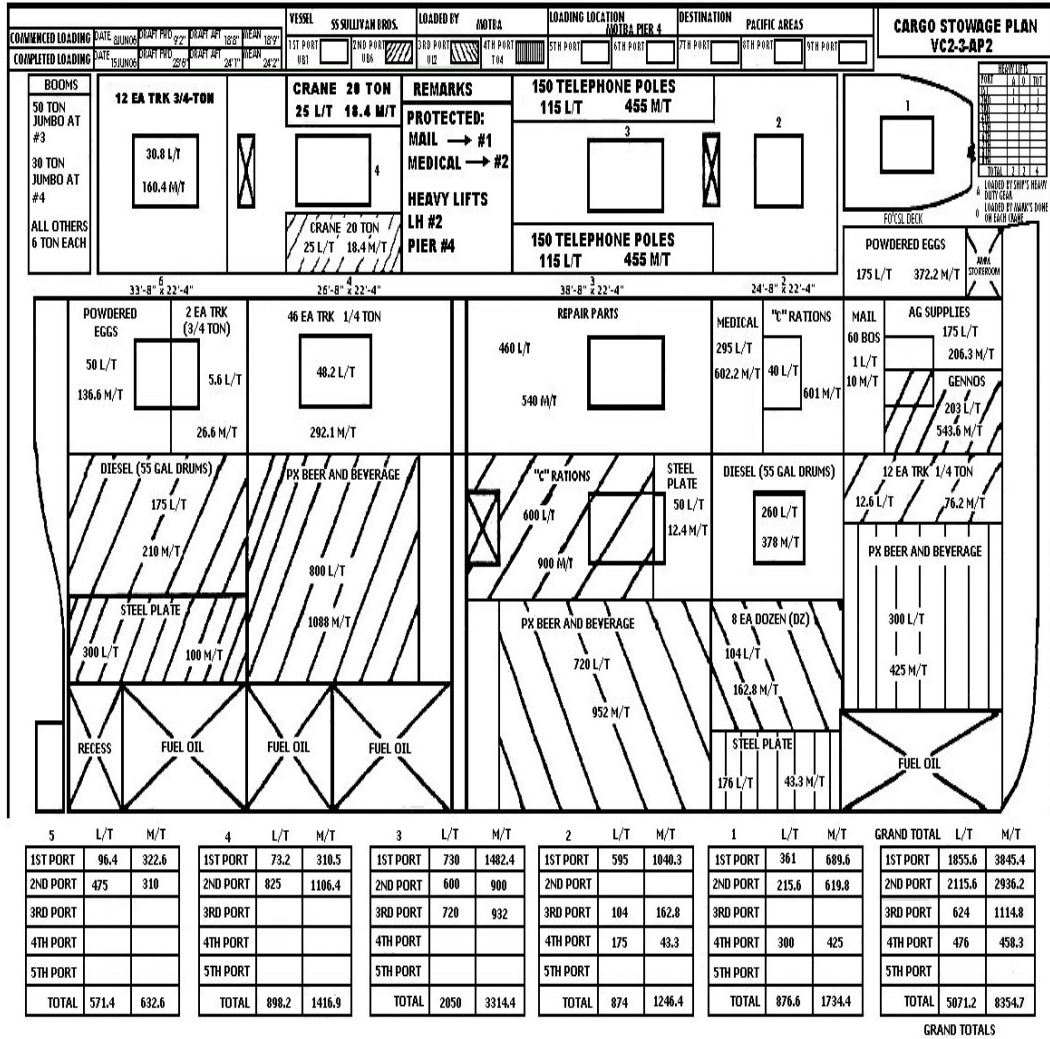

Figure 3-174
1. Read the manifest and stowage plan for outsize or special handling cargo (see Figure 3-173 and Figure 3-174).